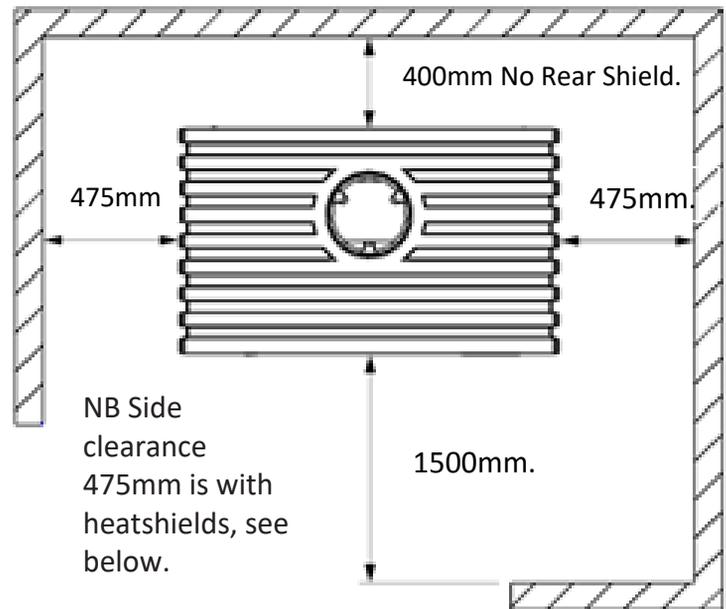

FIG. 6 – SAFETY DISTANCES
- When installing the stove, observe the necessary safety distances for the oven and chimney from combustible surfaces (wooden or papered walls, wooden floors...). Safety distances must be respected when the lining on walls or nearby areas may be damaged or deformed by temperature (varnish, paint, PVC...). Fig. 6